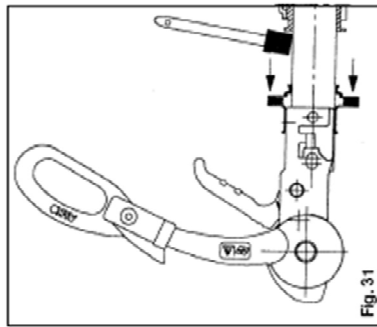

Fig. 31
- b) Lubricate the drawshaft sleeve via the grease nipples. In addition, push the gaiter forward and grease (DIN 51825 KTA 3K) the exposed part of the shaft (Fig. 31).